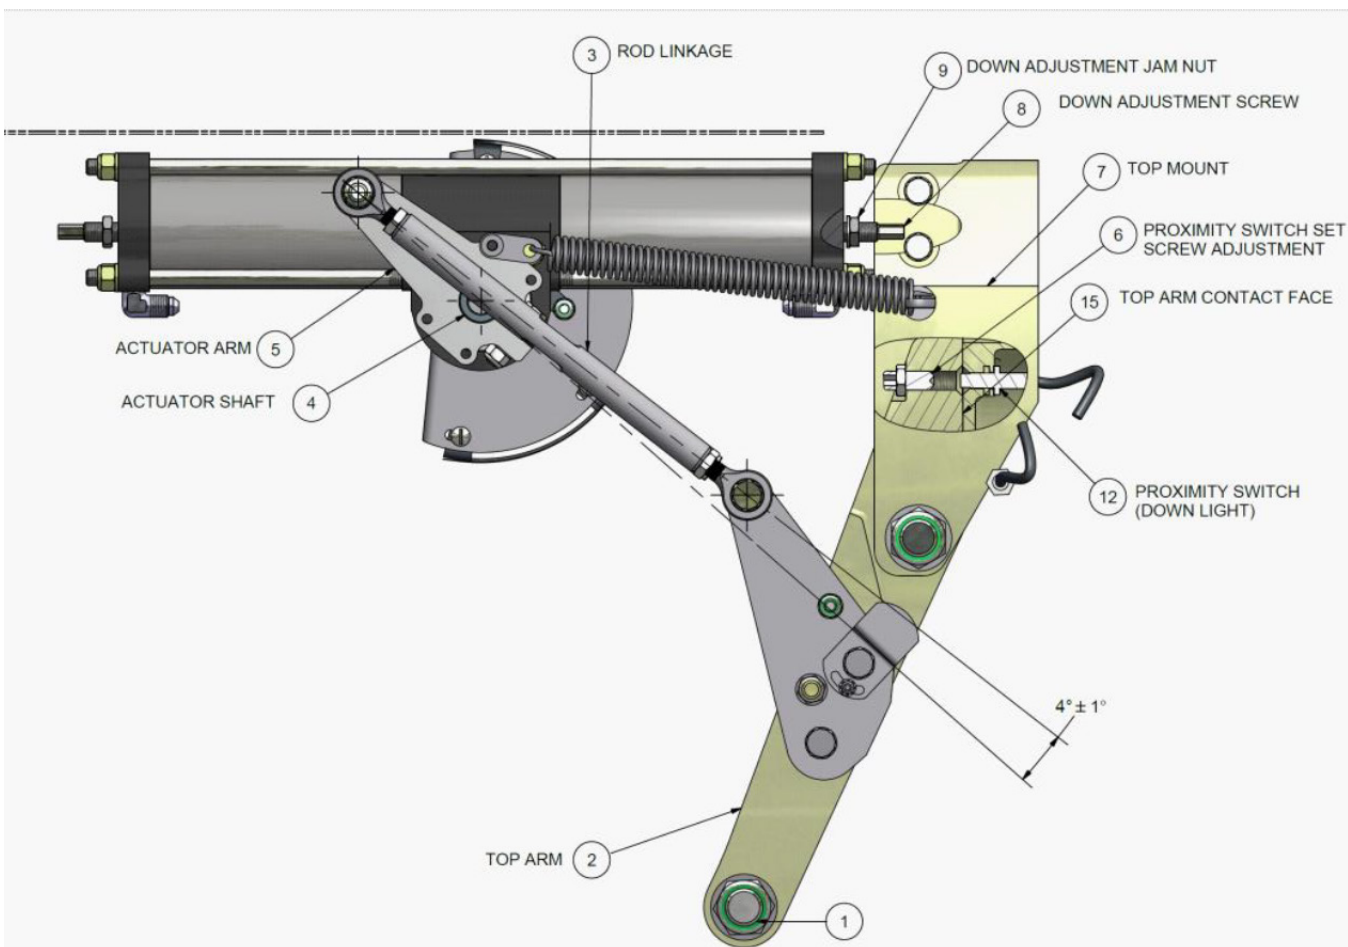

FIGURE 4-4A MAIN GEAR ADJ. DOWN
There are two proximity switches on each main gear unit. One for sensing gear up position, and the other for gear down position. These are easily replaceable and can essentially be adjusted during maintenance, see figure 4-4A and 4-5. The proximity sensors have a built in LED to indicate when they are sensing the gear position. This feature greatly aids in the setup and servicing of the sensors.
(See figures 4-4A and 4-4B)
20. Visually inspect the Rod Linkage position (Item 3) versus the actuator shaft (Item 4). When rigged correctly, the bottom edge of the rod linkage should pass through the shaft as shown in Figure 4-4A.